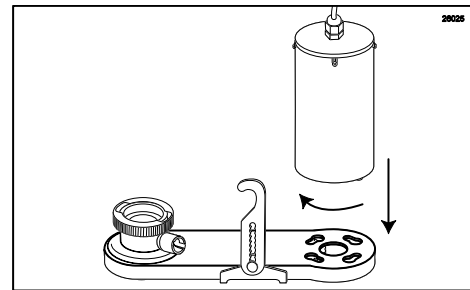

Figure 131
3. Insert the Drive Motor into the Drive Assembly Gear Box so that all four locking screws are seated properly and rotate the motor clockwise to secure. (See Figure 131.)